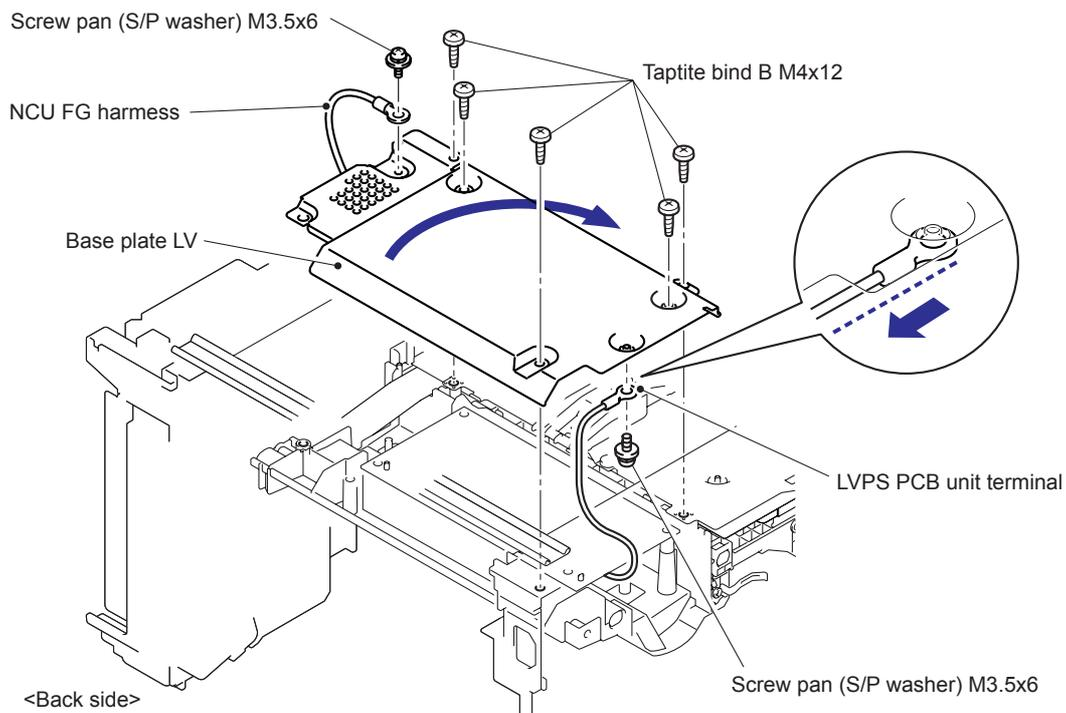

Fig. 5-165
- When assembling the Base plate LV, Direct the cable side of the LVPS PCB unit terminal to the backward (Fig. 5-165: To the direction of an arrow of the enlarged illustration.), and align parallel the LVPS PCB unit terminal with the side of the Base plate LV.
- (5) Remove the two bind B M4x12 Taptite screws, and then remove the LV insulation sheet.